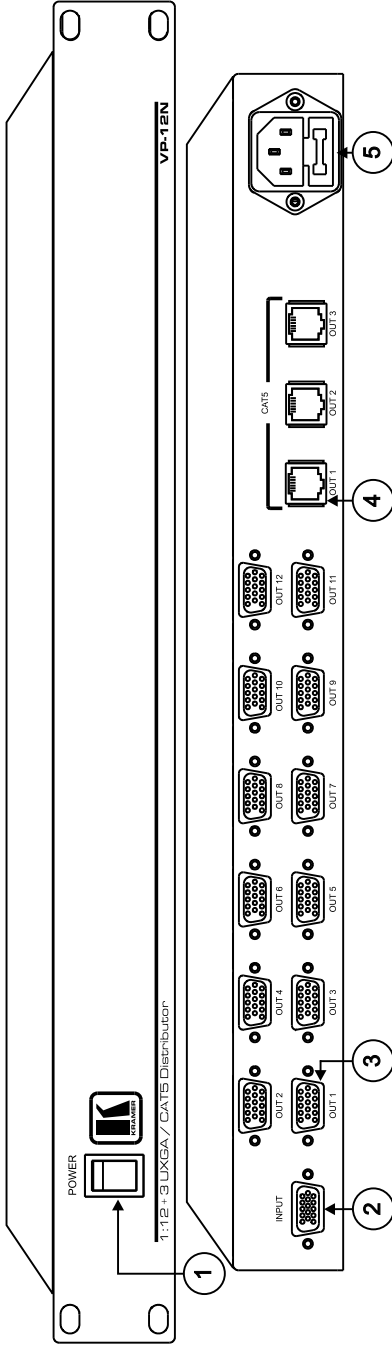

Figure 1: VP-12N 1:12 + 3 UXGA / CAT5 Distributor
- Front and rear panels (see Figure 1 and Table 1)